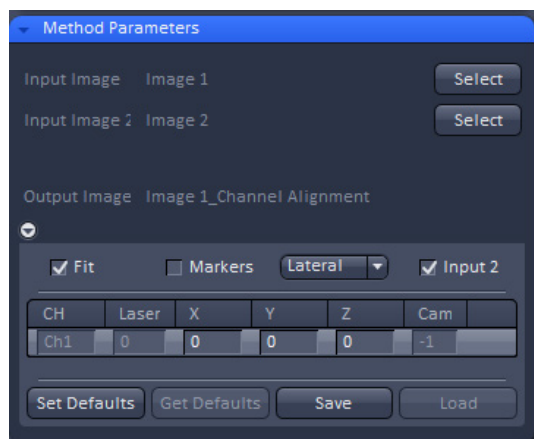
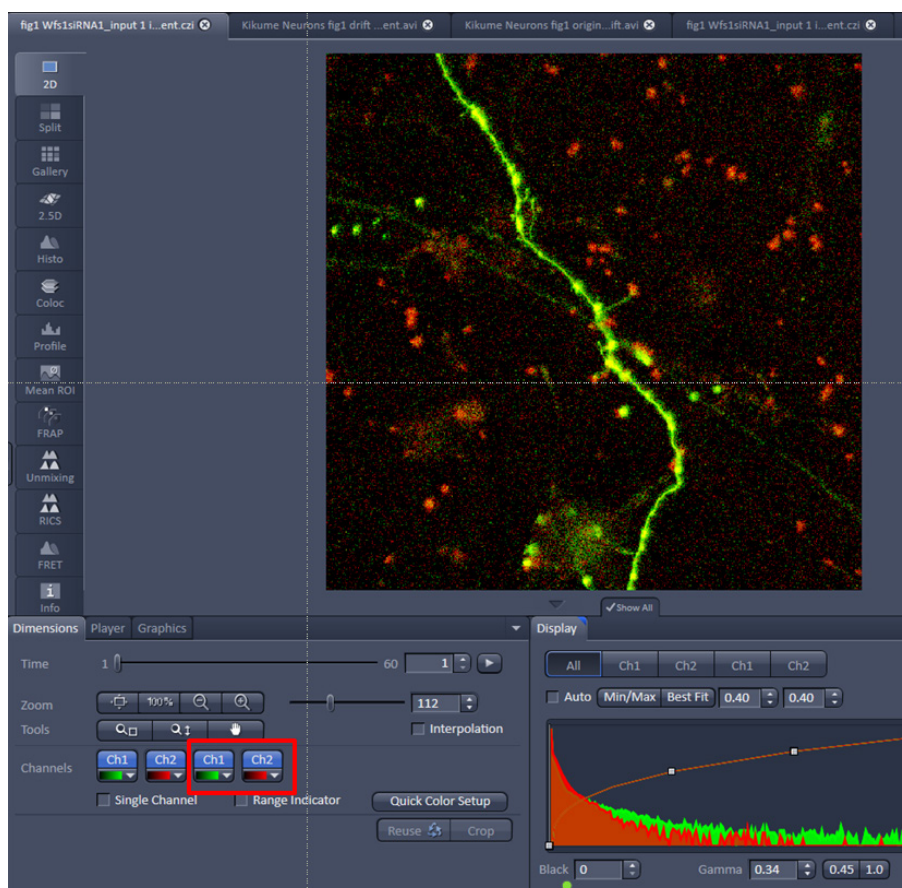

Fig. 510 Methods Parameter of the Channel Alignment Processing tool
Fig. 511 The boxed channels represent the drift corrected ones.
- Apply drift correction. In the **Channel alignment** Processing function select the reference time series as **input 1** and the original time series as **input 2**. Check the **Fit** box and the **Input 2** box and leave **Marker** box unchecked (Fig. 510). Select **lateral** from the **correction mode selection** drop down menu. Press **Apply**. The resulting image will have a doubling in channels. The first half represents the original data set, the second half the drift corrected data set (Fig. 511). The number of channels depend on the number of channels of the original time series.